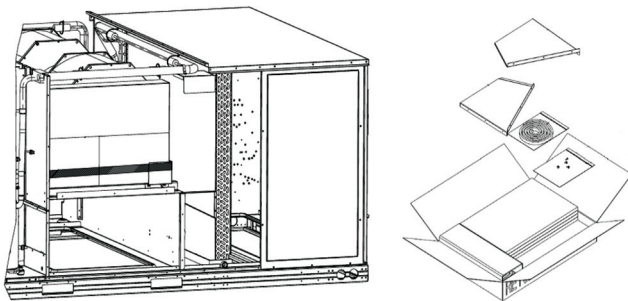

Fig. 16 — Barometric Hood Box Parts Location
2. Remove the side panels located in the hood parts box (see Fig. 16).